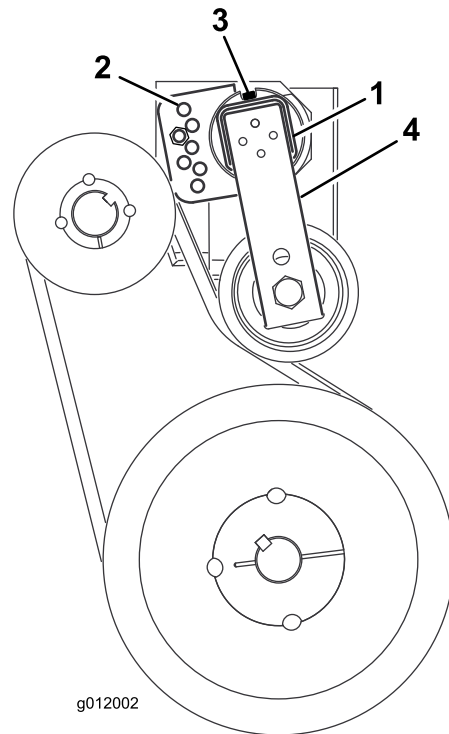

Figure 15
3. Remove capscrew and nut securing the tensioner guide to the blower frame (Figure 15).
4. On the rear of the frame, loosen the capscrew securing the belt tensioner to frame (Figure 15).
6. Insert the capscrew into the aligned guide holes and secure it with the nut (Figure 15).